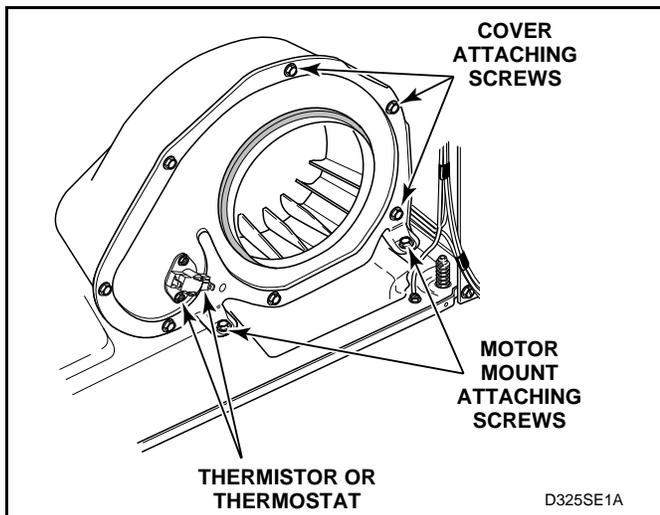

Figure 41
- Remove two screws holding motor mounting bracket to dryer base. See *Figure 41*.
- (1.) Remove screws holding cover to housing. See *Figure 41*.